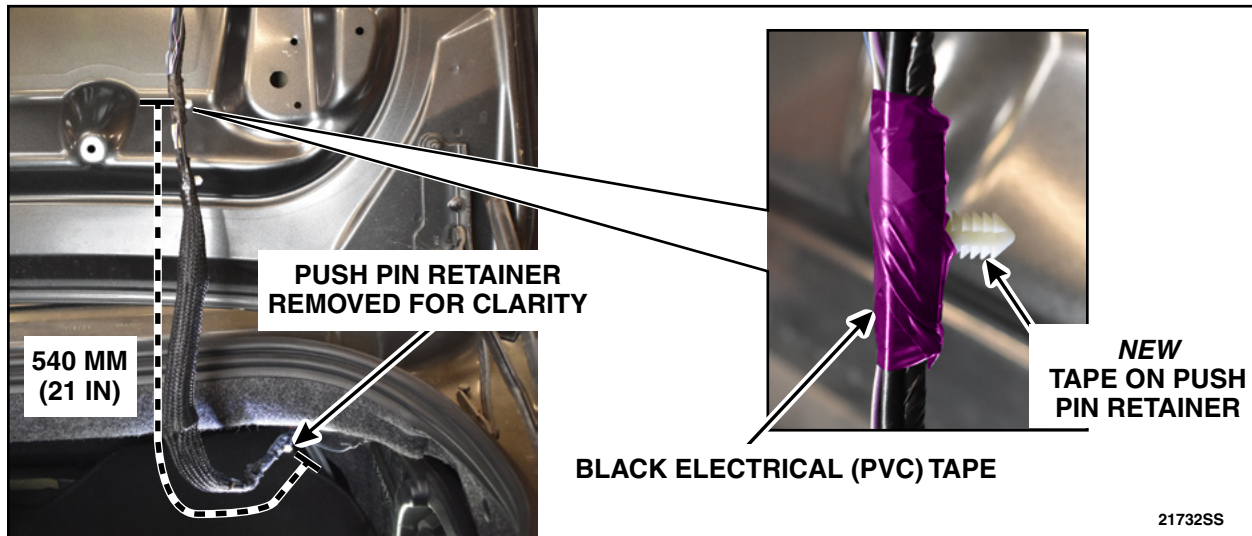

FIGURE 52
71. Measure 540 mm (21 in) from the wiring harness take out tape on push pin retainer and install a new tape on push pin retainer using some KT173510 or equivalent black electrical (PVC) tape. See Figure 52.